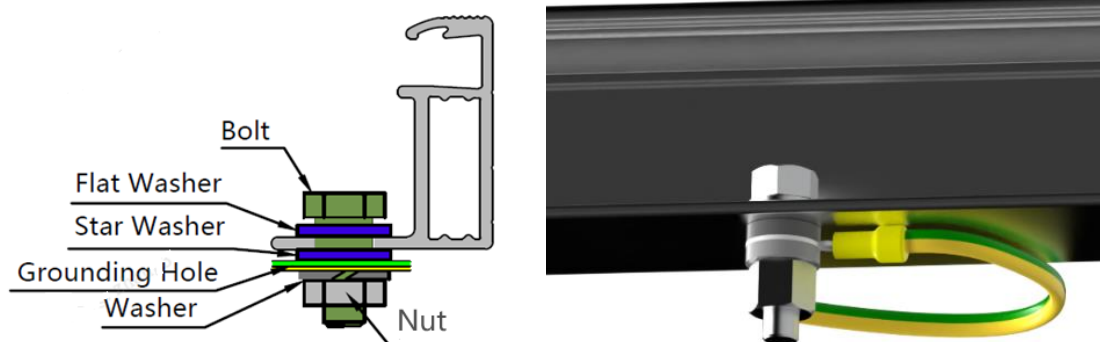

Figure 9. Grounding hole with bolts
- There are grounding holes with a diameter of 4mm on the long side of the back frame of the module, by the edge part. The grounding hole on the frame is marked with typical grounding symbol (\equiv) according to IEC 61730-1:2023 standard. These holes can only be used for grounding with bolts, so cannot be used for module installation. This method includes bolt, flat washer, star washer, washer and nut (see Figure 9) . The bolts should be tightened when grounding is installed. The frame of the module must not be punched with additional holes and no damage should be done to the module frame or the grounding wire.